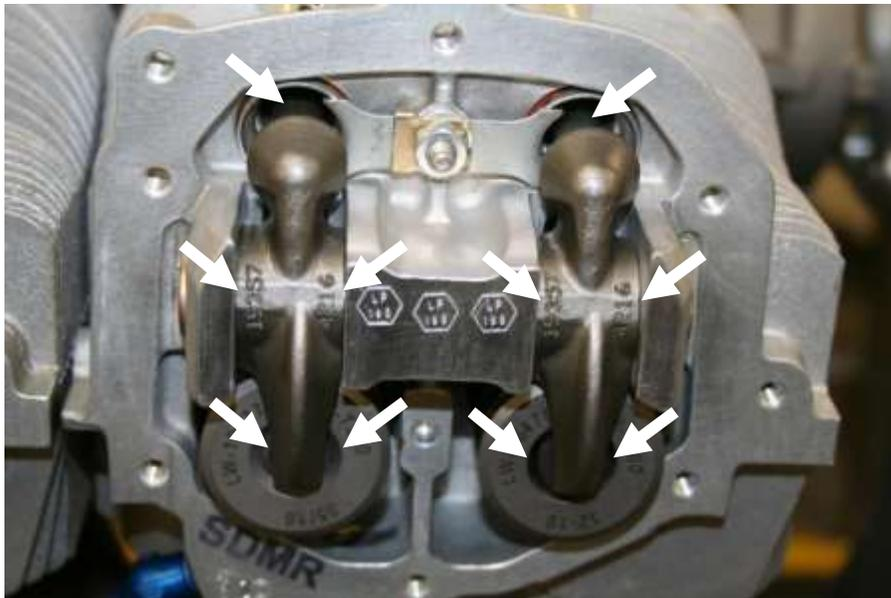

Figure 36
J. Lubricate rocker contact surfaces (Figure 36) with Modoc® Oil 175.